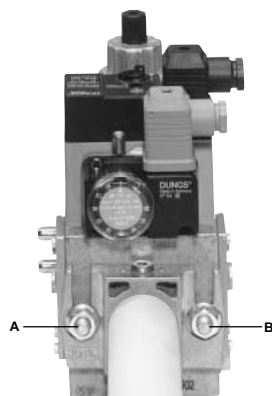
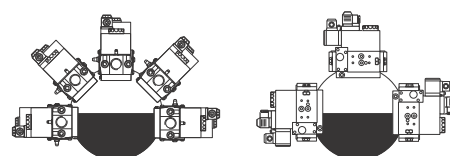

Fig. 6
Fig. 9
3. tighten screws A, B, C and D (Fig. 6 - Fig. 7), according to the mounting positions (Fig. 9);